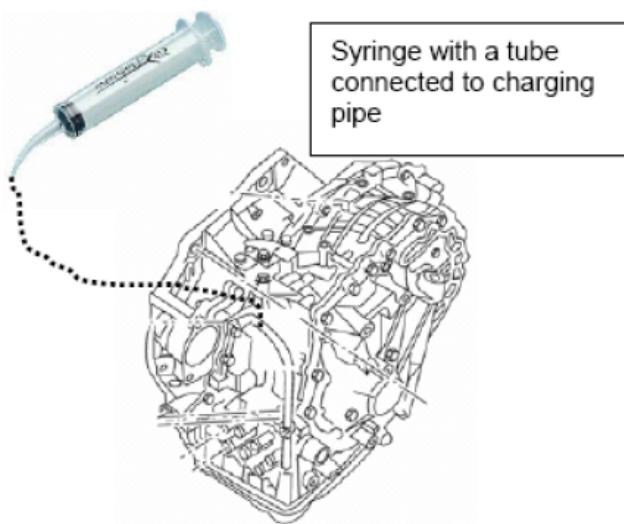

Figure 2
- a. To check fluid type, draw a sample by using a syringe or suitable tool through the oil level gauge charge pipe, or drain from the oil pan (see Figure 2).